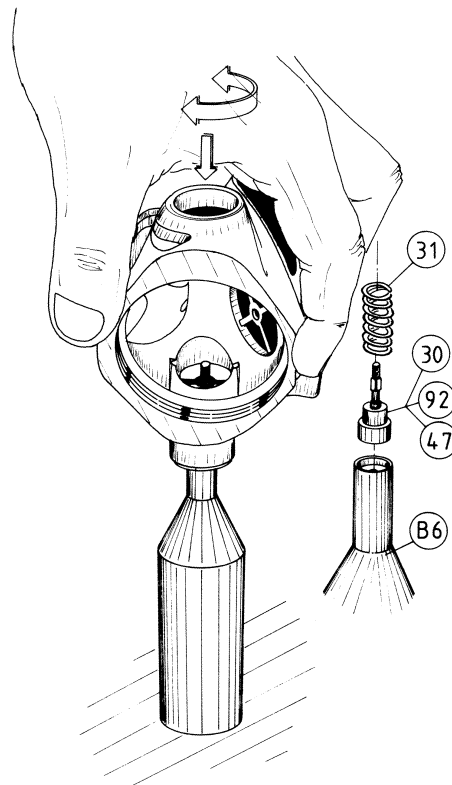

FIG. 3
- A.1 Place the 2nd stage poppet assembly (30-47-92) together with its spring (31) on the special tool (B-6).
- A.2 Insert the 2nd stage case (32) on the poppet assembly with spring and exert a slight pressure so that the poppet protrudes from the 2nd stage case. (Fig. 3)